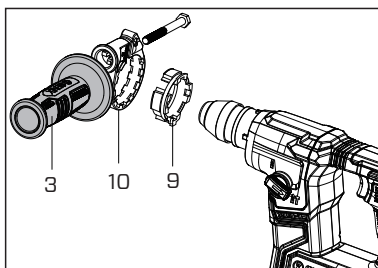

Fig.2
Push the Spacer(9) to the tool and rotate it until it is secured if it is not attached from manufacturer. Fit the Bracket(10) on the Spacer(9). Then screw the Auxiliary Handle(3) on the Bracket(10) to reinforce the grip of the Bracket(10) on tool (Fig.2).